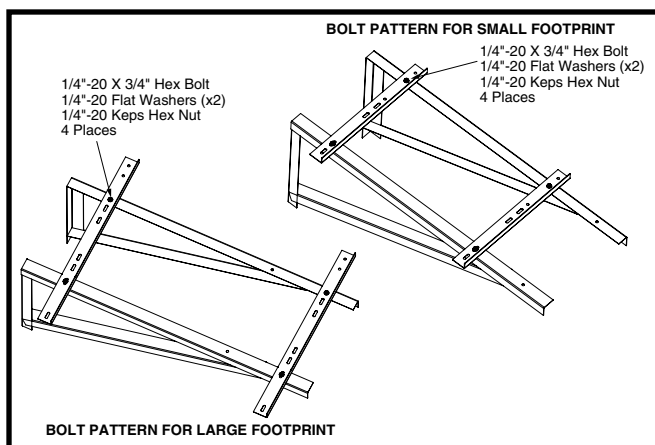

Figure 2. Bolt Patterns
2. Orient both of the cross brackets on the cantilever mounting brackets so that the flat edge with the clearance holes is pointing towards the house as shown in Figure 2 (page 3).
3. Fasten the cross brackets to the cantilever mounting brackets using four 1/4\"-20 x 3/4\" bolts, eight 1/4\" flat washers, and four 1/4\"-20 keps locking nuts. See Figure 2 for proper assembly according to footprint size of unit.